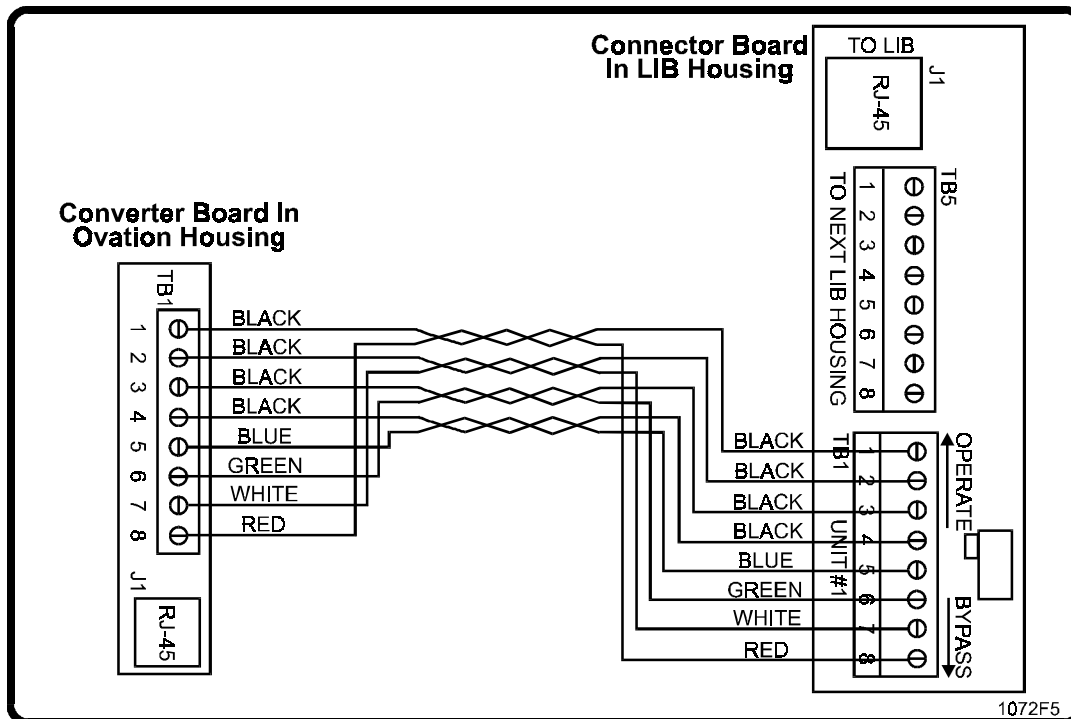

Figure 5. Single Entrance Ovation Controller Cabling.
- a. **A 4 twisted pair cable** from the Ovation Controller to the connector board in the first LIB housing, as shown Figure 5. This cable can be up to 2500 feet in length.